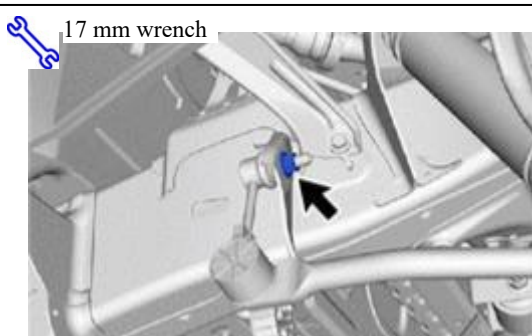

Fig. 39-1
- (a) Disconnect the OE Rr stabilizer bar link assemblies from the frame attachment by removing the nut. Retain the nut for reinstallation (Fig. 39-1).